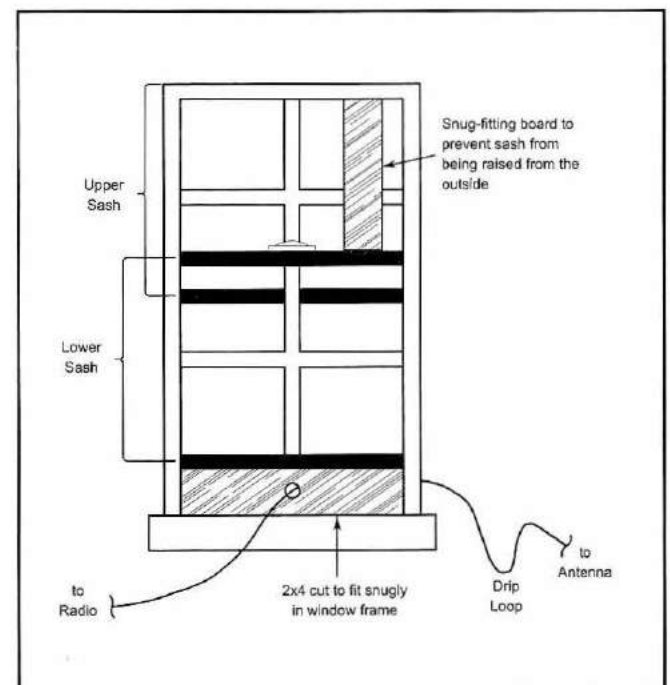

Fig 1-45—A narrow 2 × 4 with a properly drilled hole will pass a coaxial cable through a window without modifying the window itself.
**A** See Fig 1-45, which shows a method that avoids drilling holes in your house. Cut a piece of 2 × 4 lumber so that it fits snugly into the lower sash. Drill a hole large enough for your coaxial cable. Pass the cable through the board and through the window. Close the window onto the board and the upper frame to prevent the window from being opened from the outside. Connect the coax to your antenna, but leave enough slack in the cable to form a drip loop just outside the window. Finally, buy some packing-foam material and use it to block any drafty gaps created by your new installation. This can be insulated even better than shown with a bit of imagination. When it is time to move, the whole assembly can be removed without damage to the window.